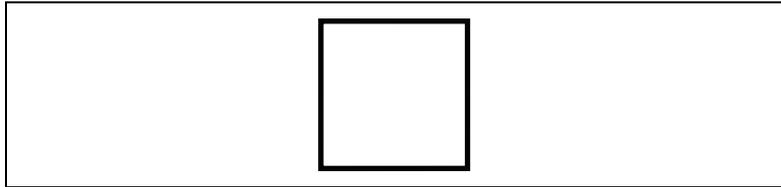
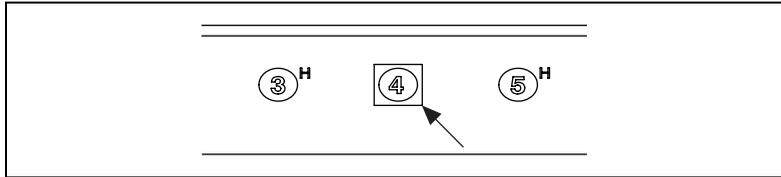

Figure 1. System Timing Device Slot Indicator Glyph without Circle
Figure 2. System Timing Device Slot Indicator Glyph on the NI PXIe-1062Q Chassis
2. Locate the System Timing Slot in your chassis. It is marked by either a square glyph shown in Figure 1, or a square glyph with a circle inside of it, as shown in Figure 2.